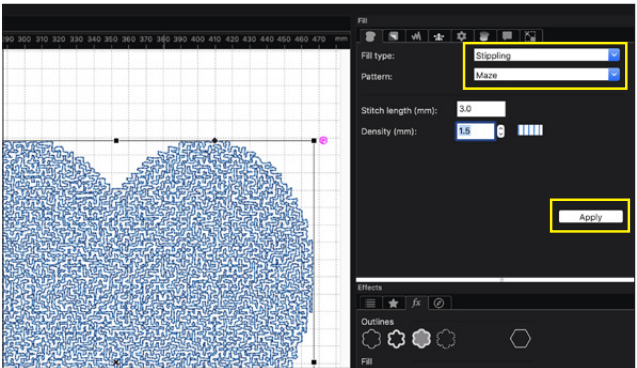

Figure 62
3. Next, navigate to the fill pane and select a fill type from the drop down and click Apply. **See Figure 62.**